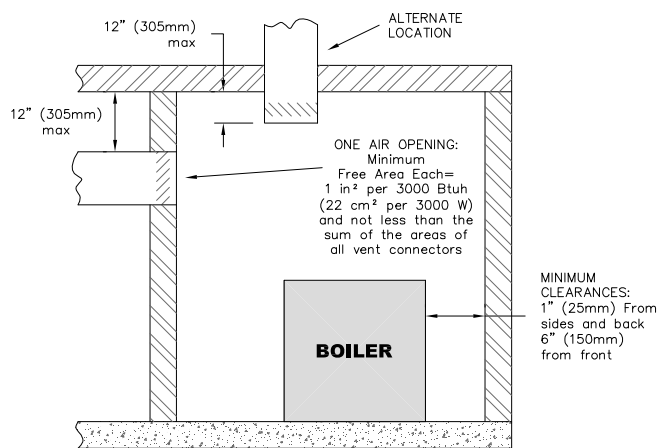

Figure 1.6: Air Openings - All Air from Outdoors through One Opening
- b. **One Permanent Opening Method:** Provide one permanent opening beginning within 12 inches (305 mm) of the top of the space. The opening shall communicate directly with the outdoors, communicate through a vertical or horizontal duct, or communicate with a space that freely communicates with the outdoors. The opening shall have a minimum free area of 1 in² per 3000 Btu/hr of total rated input for all appliances in the space and not less than the sum of the cross-sectional areas of all vent connectors in the space. The gas-fired equipment shall have clearances of at least 1 inch (25 mm) from the sides and back and 6 inches (150 mm) from the front of the appliance. See Figure 1.6 for this arrangement.